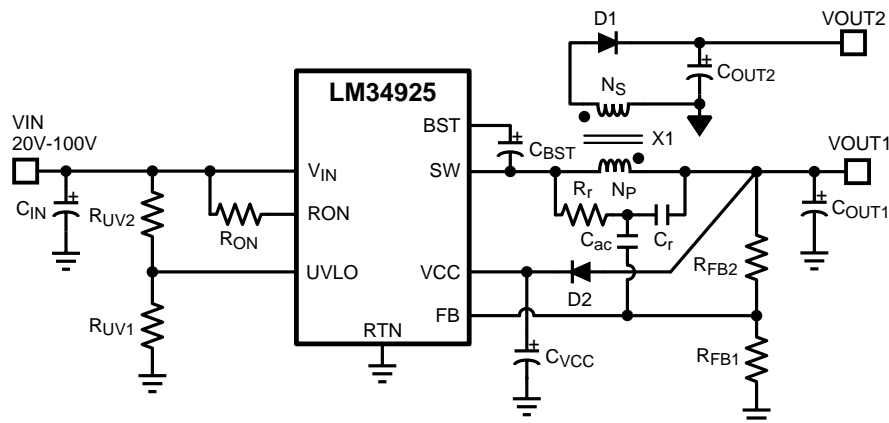

Figure 16. Typical Isolated Application Schematic
A typical isolated bias supply application is shown in Figure 16. Inductor (L) in a typical buck circuit is replaced with a coupled inductor (X1). A diode (D1) is used to rectify the voltage on the secondary output. The nominal voltage at the secondary output (V_{OUT2}) is given by: